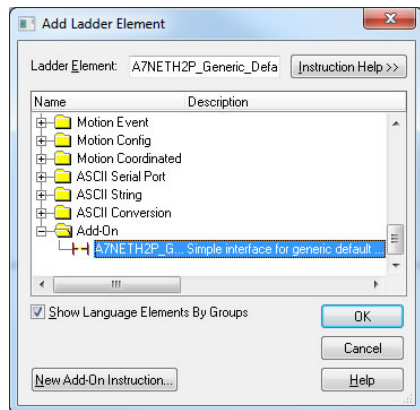

Figure 48: Add Generic Default Add-On Instruction
- Select the generic default I/O add-on instruction in the Add-On folder. Refer to Figure 48.